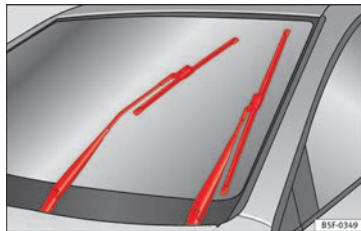

Fig. 65 Wipers in service position.
- Turn the ignition on and off and then (with in approximately 9 seconds) push the windscreen wiper lever down (short wipe). The windscreen wipers will move to the service position » Fig. 65.